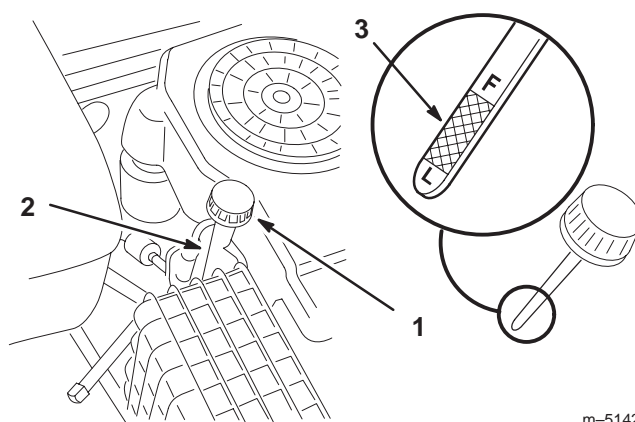

Figure 24
2. Clean around the oil dipstick (Fig. 24) so that dirt cannot fall into the filler hole and damage the engine.
3. Unscrew the oil dipstick and wipe the metal end clean (Fig. 24).
4. Slide the oil dipstick fully into the filler tube, but do not thread it onto the tube (Fig. 24). Pull the dipstick out and look at the metal end. If the oil level is low, slowly pour only enough oil into the filler tube to raise the level to, but not over, the "F" mark on the dipstick.
6. Slowly pour approximately 80% of the specified amount of oil, page 24, into the filler tube (Fig. 24). Check the oil level; refer to Checking the Oil Level, page 24. Slowly add additional oil to bring the level to the "F" mark on the dipstick.